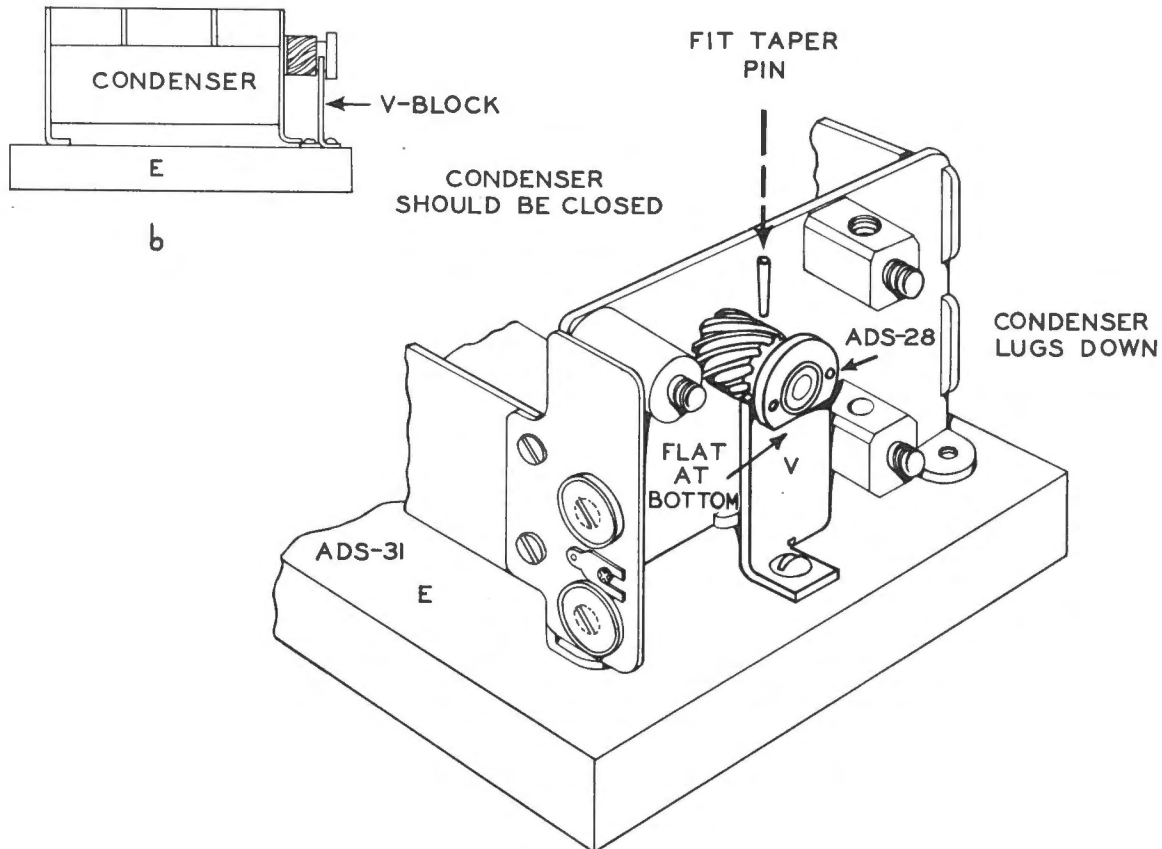

**Figure 13 — Condenser — Removal of Worm
e. (FIG. 13) To drive taper pin (A) from the worm hub, cover the condenser shaft, bearings and trimming condenser to protect them against damage. Next, place a wooden wedge between the worm and the end wall of the condenser to prevent the shaft
f. (FIG. 13) Remove the shaft (B) and worm (W). *Notes:* The condenser should be closed (plates meshed) at all times when handling it. Worm (W) and shaft (B) can be discarded.